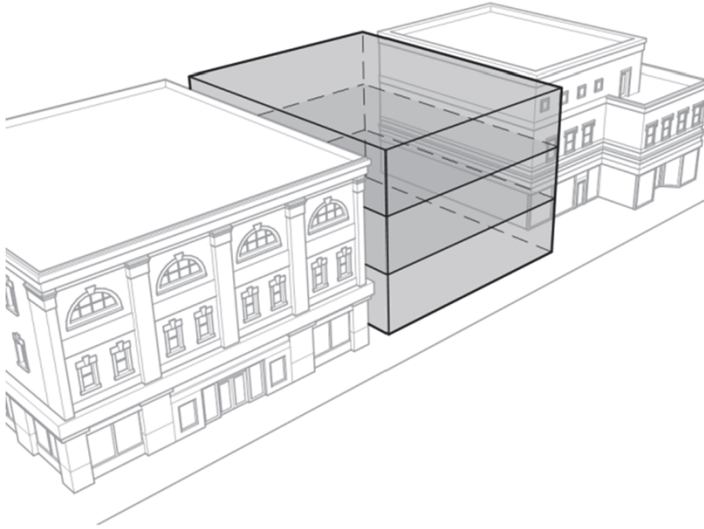

Figure 040-27: Building Floor Heights
- 1. Floor heights in new buildings shall be similar to those of existing historic buildings in the downtown commercial core. (Figure 040-27)